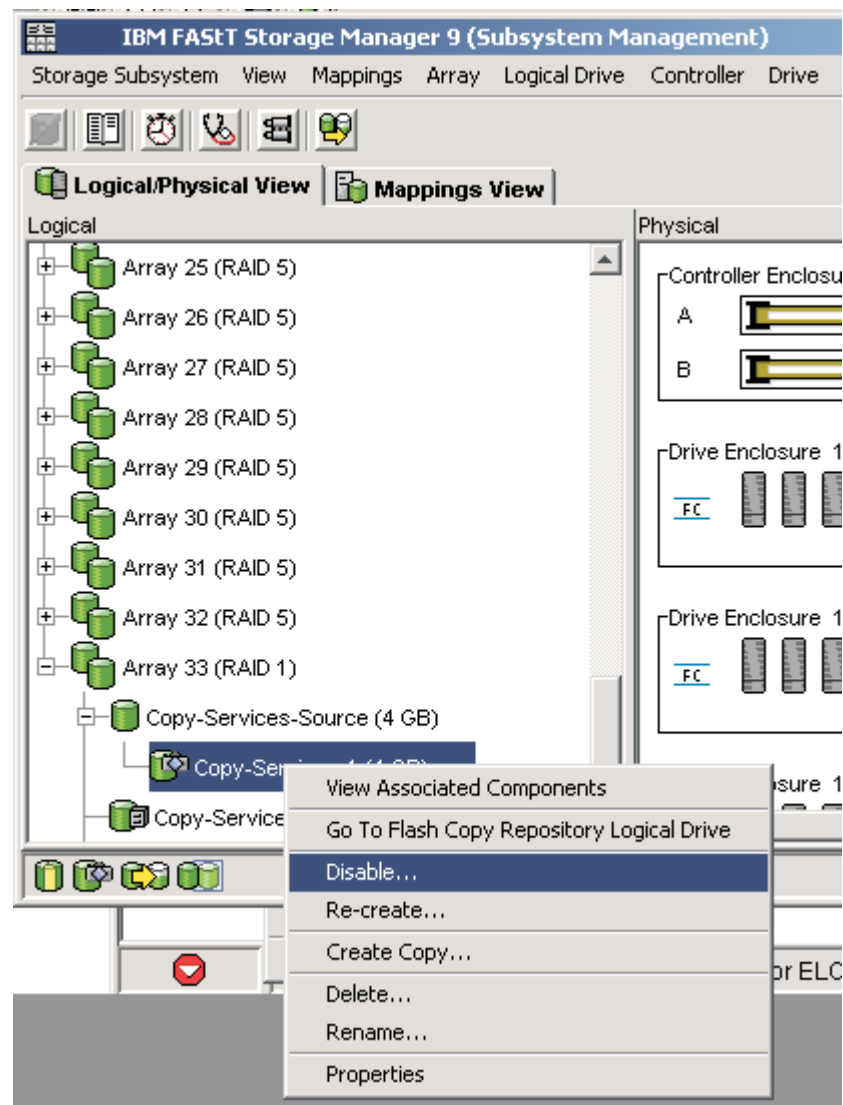

Figure 16. Choosing to disable the FlashCopy drive
1. Select the FlashCopy logical drive. Right-click and select **Disable**, as shown in Figure 16.